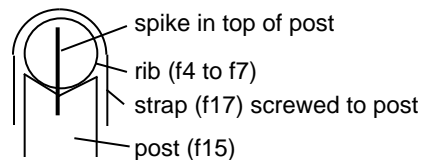

Fig. 6. 2x4 post top connection.
- Set 2x4 end wall studs and any interior rib support posts into augured holes, and secure their tops by spikes projecting into holes drilled into the bottom of the rib (Fig. 6). Screw or nail the stud and post tops to the ribs with 3/4" wide perforated plastic strapping (f17).